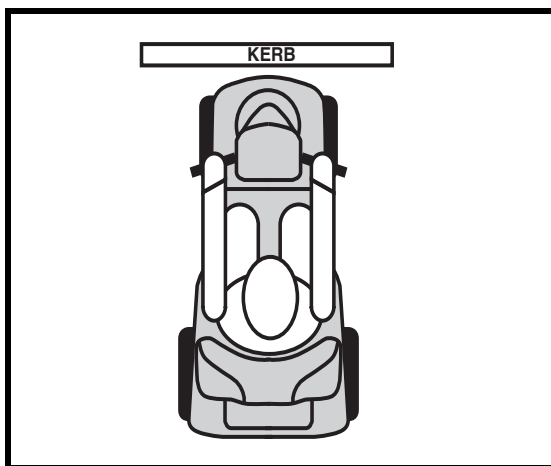

Figure 3. Correct Kerb Approach
**WARNING!** Be sure your scooter is traveling perpendicular to any kerb you may be required to ascend or descend. See figures 3 and 4.